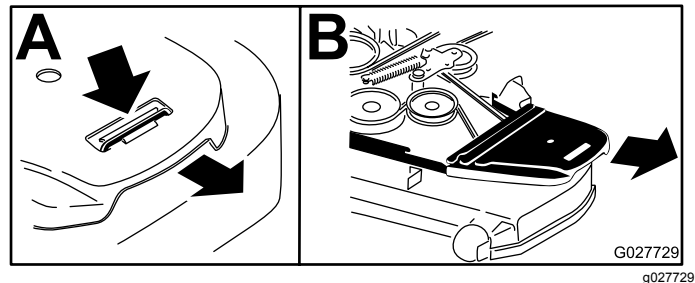

Figure 76
4. Remove the belt covers (Figure 76).